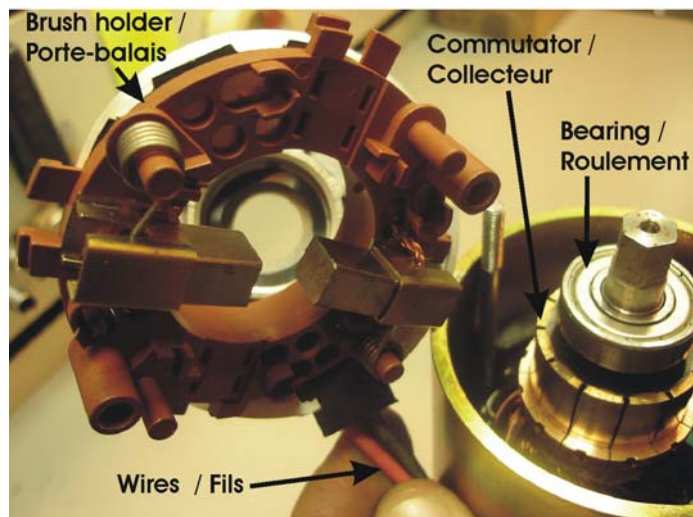

FIGURE 5
- a. Pry the brushes gently with a small screwdriver to move them aside from the bearing and the commutator (figure 5 & 6).